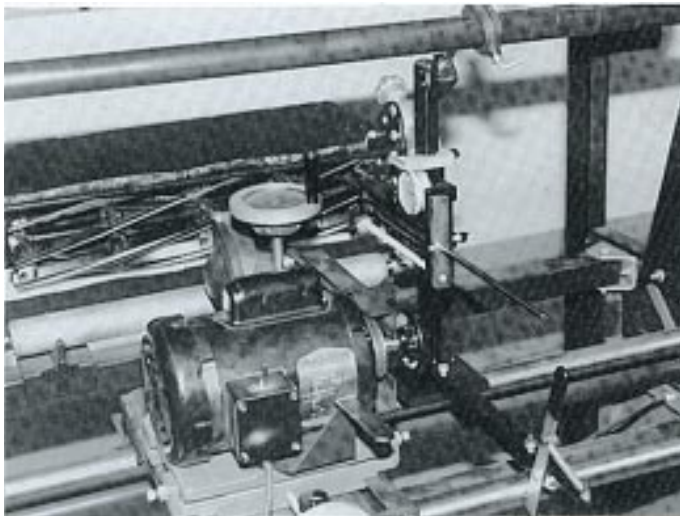

Fig. 9
- B. Raise the indicator slide casting on the vertical support so that the indicator rod can be extended over the center shaft of the reel. (See Fig. 9 and 10)